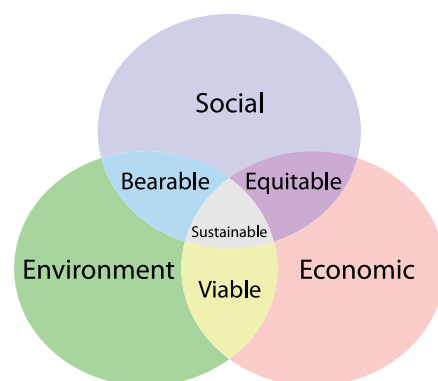

Fig. 1 – Motivating factors concerning sustainability.
*'The point at which the needs of Social, Environmental and Economic factors intersect for a mutually beneficial outcome' (see Fig. 1)*